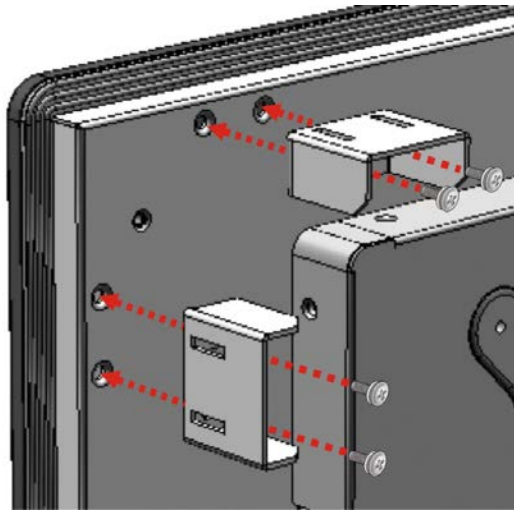

Figure 3-23: Secure the Mounting Clamp Holders
Step 3: Secure the mounting clamps holders to the corresponding holes on the rear of the monitor (**Figure 3-23**).